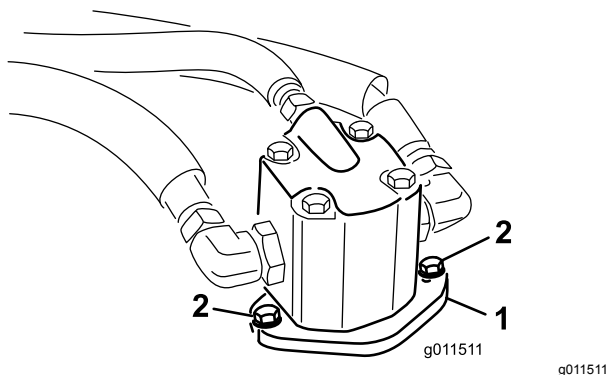

Figure 97
4. Remove the bolts securing the hydraulic motor to the cutting unit (Figure 97). Lift the motor off of the cutting unit and lay it on top of the cutting unit.